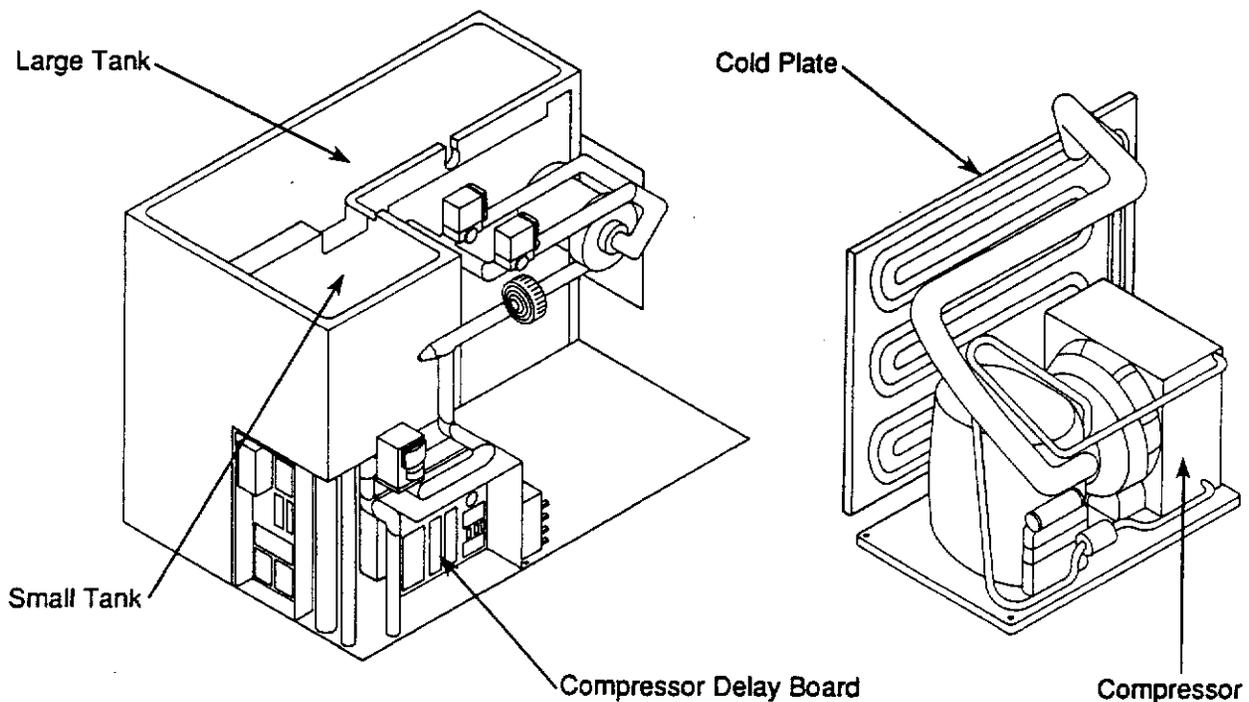

Figure 3-3. Compressor Assembly
3.9 Compressor Assembly (See figure 3-3.)